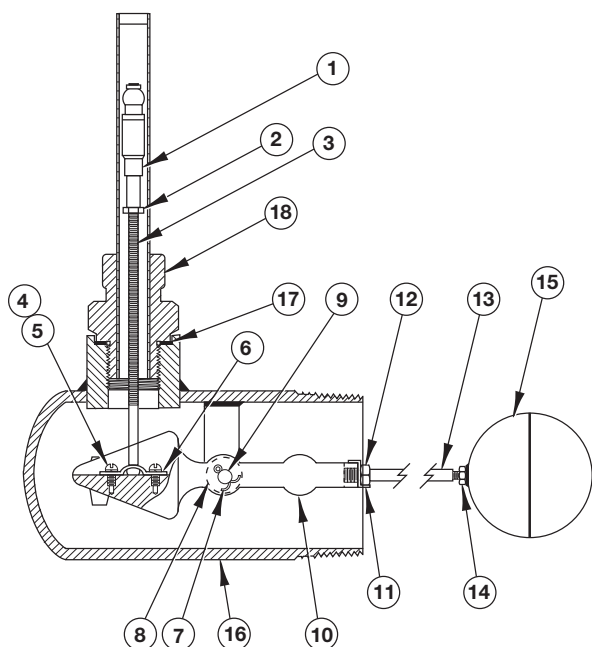

Figure 32
3.3.1.1 Model P68-2F2A Threaded 3" NPT (See Figure 32)